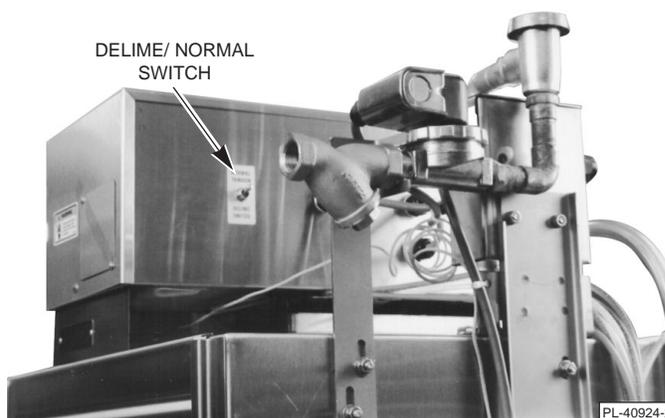

Fig. 21
8. Turn the *DELIME/NORMAL* switch (at the rear of the control box, Fig. 21) to Delime. None of the other machine functions will operate in the delime mode.